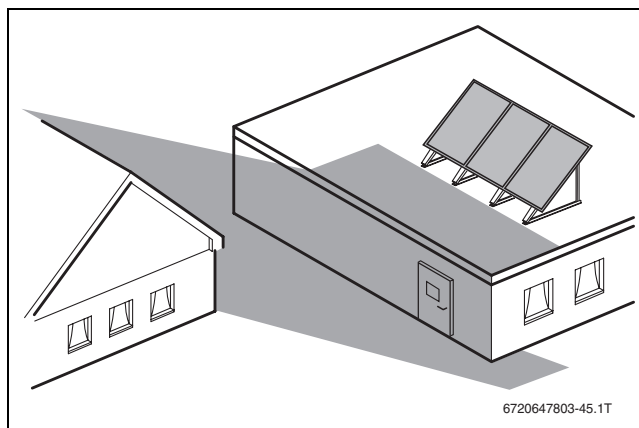

Fig. 11
- Prevent possible shading (→ Fig. 11, 19 and 20).